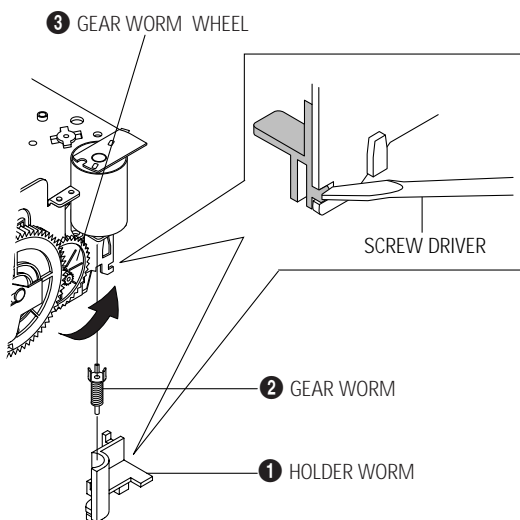

Fig. 2
- 4) Rotate Gear Worm Wheel ❸ counterclockwise using screw driver again up to the state of eject mode and then pick out the tape. (Refer to Fig. 2)